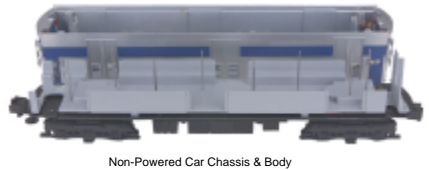

Figure 6
1. Remove the eight Phillips screws from the chassis, then lift the body away from the chassis. Lift the shell off carefully and turn body shell over to reveal interior lights. (See figure 6)